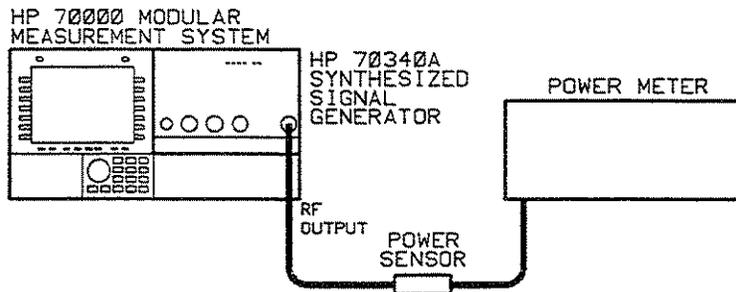

Figure 1-5. Low Level Accuracy Test Setup using Power Meter
5. Connect the equipment as shown in Figure 1-5.